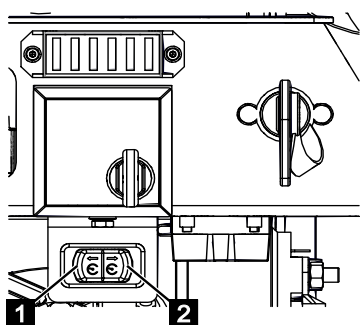

Fig. 194
5. Press the service button (Fig.194/1 or 2) to increase the combustion engine's speed.